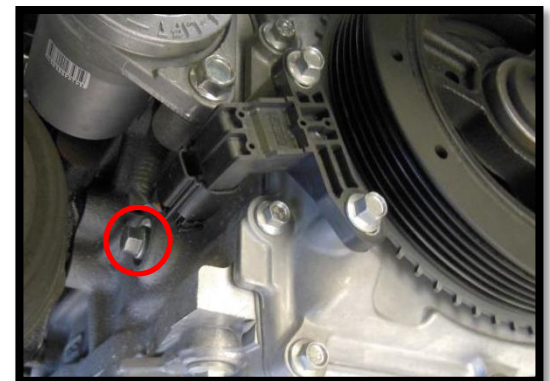

Figure 3e
- d) Locate the crankshaft blind plug (red circle in Figure 3e). Remove it with a 10mm wrench.